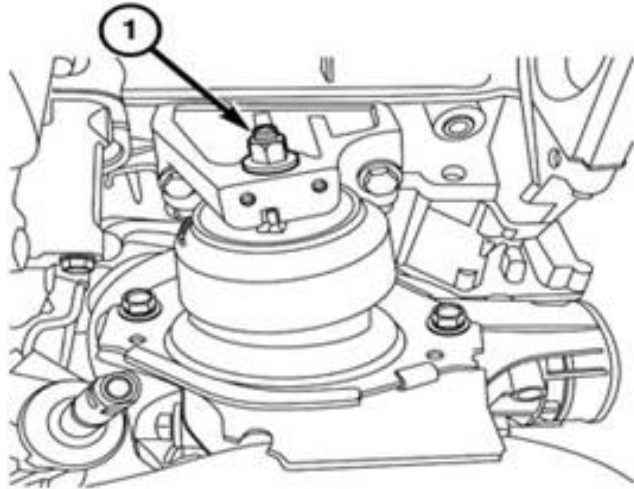

Figure 37 – Engine Mount Nut
- 77. Remove the left engine mount nut (1) (Figure 37).